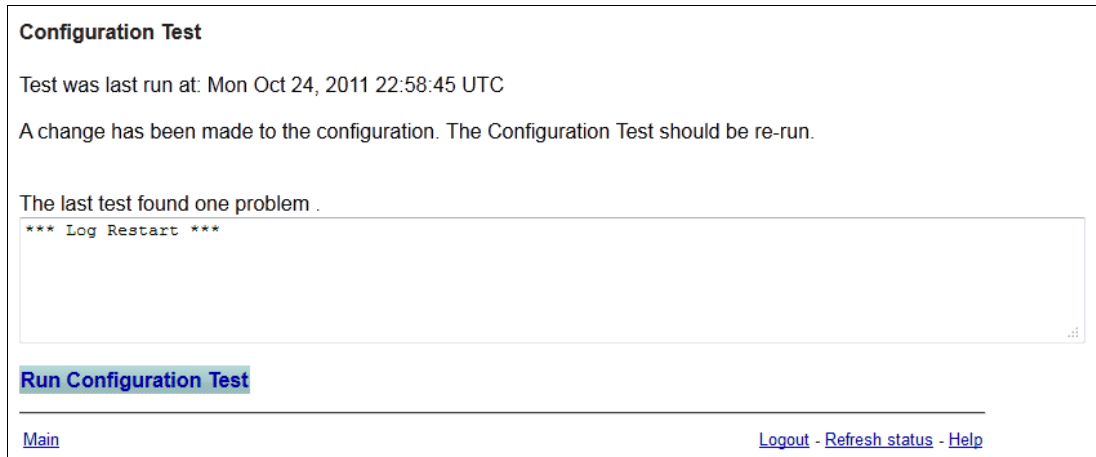

Figure 6-22 RSM Run Configuration Test
23. After entering all the desired information, you can verify the information by clicking the **Run Configuration Test** button as shown in Figure 6-22 on page 479.